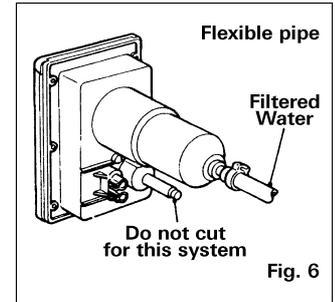

Fig. 6
2. All water filtered, no modification to the unit is required (see fig. 6 and 6a).